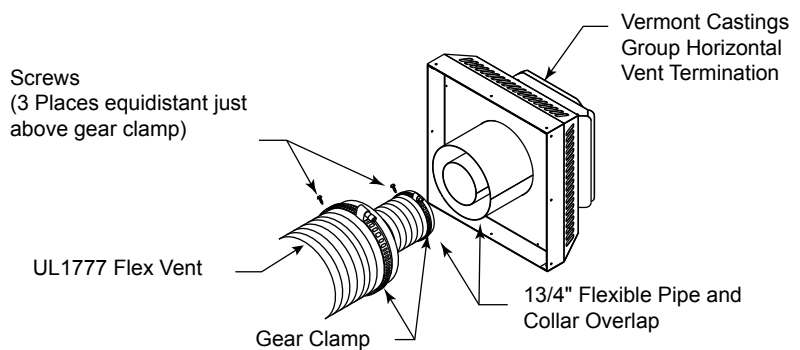

Figure 30 - Typical Horizontal Flex Vent Installation
1. Connect the 5" flexible vent to the horizontal termination as in *Figure 30*.
2. Connect the 8" flexible vent to the termination ring as in *Figure 30*.
3. Review *Figure 30* for proper overlap and clamp placement.
5. Use only listed an approved terminations and accessories, installed per the termination instructions and *Figure 30*.